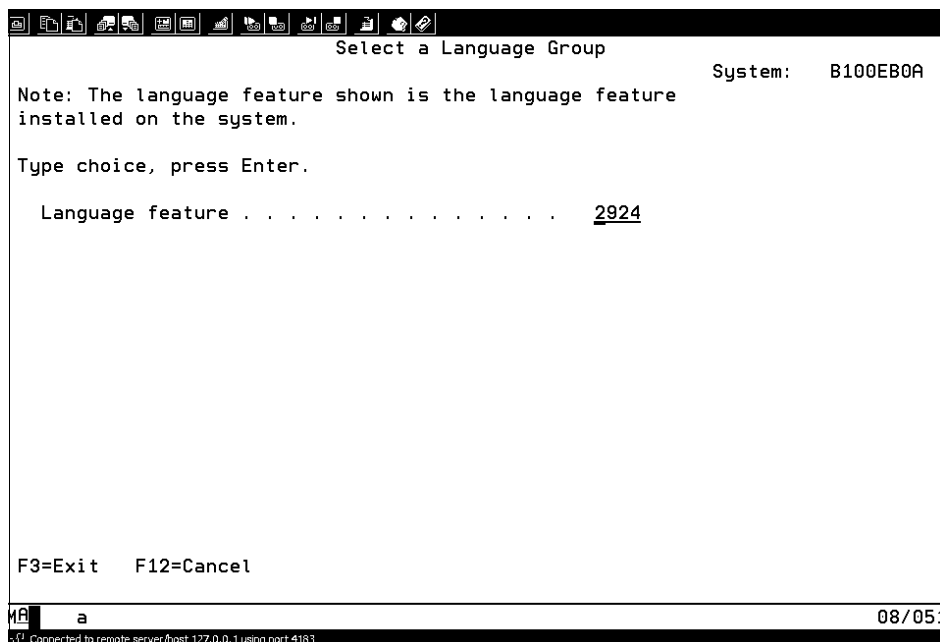

Figure 7-61 Select language feature
3. The Select a Language Group screen displays the primary language preselection, as shown in Figure 7-61 on page 306. This value should match the Language feature number that is printed in the installation media.